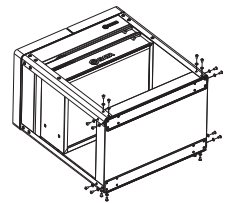

Fig. 2
2. Invert the tray and install the lower tray onto the four pillars using column bolts in sequence (Fig. 2)